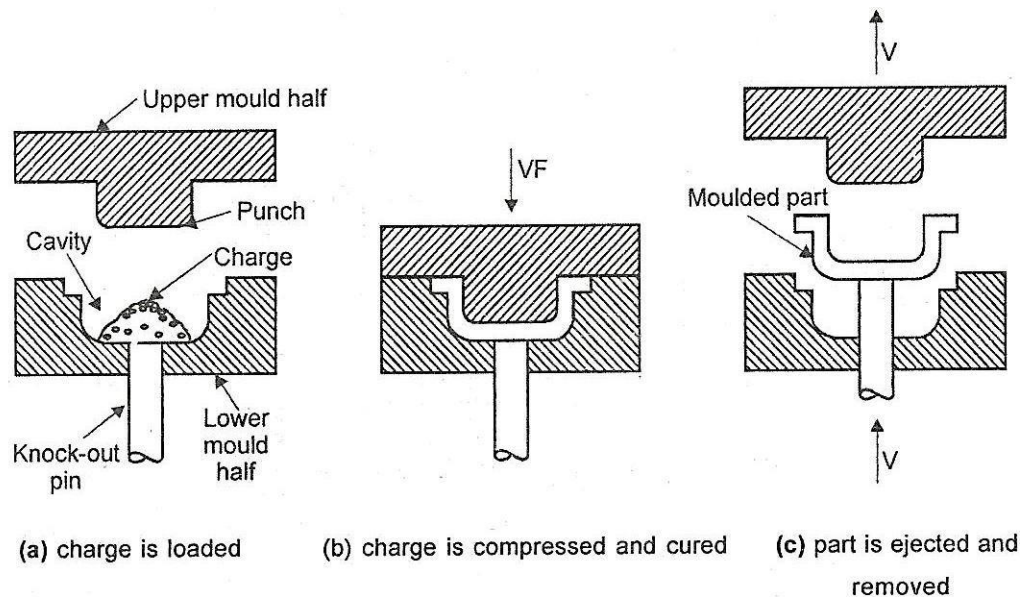

Figure 5.2 Compression Moulding
- After compression the component solidifies (polymerises), the upper half of the die opens and the component is removed with the help of ejector pins. Refer figure 5.2.